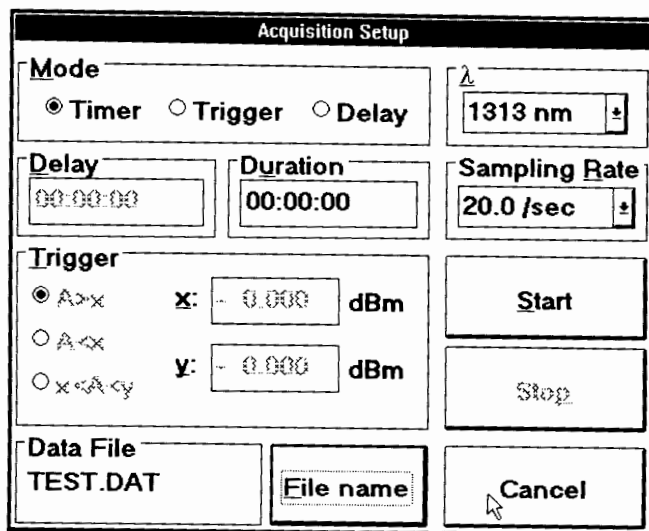

Figure 3-13. Acquisition Setup Window (IQ-1100 and IQ-1500)
1. From the main window, choose **Acquisition** to open the *Acquisition Setup* window, shown in Figure 3-13.